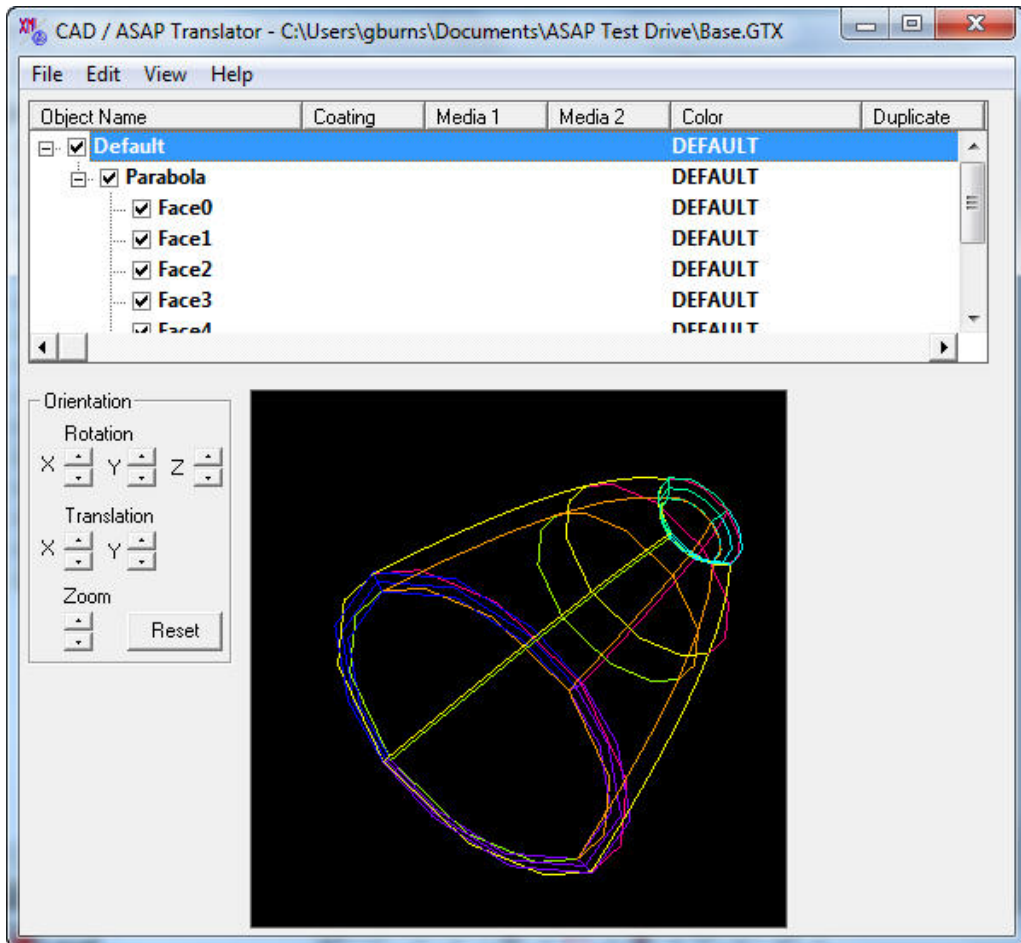

Figure 12 CAD/ASAP Translator
- 2 To see all translated geometry, click the plus sign next to **Default**, and then the plus sign next to **Parabola** under the **Object Name** column. See Figure 12.